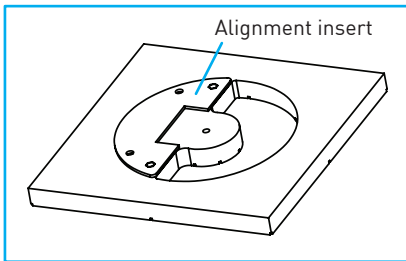
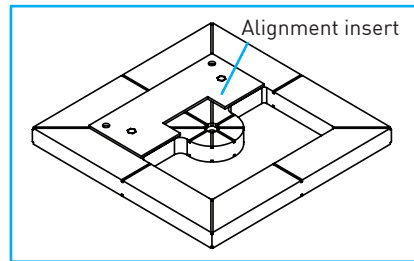

Fig.24
Fig.25
**Note:** This procedure utilizes DLA-RTG-2S-RD (Round Router Tool Guide) "**Fig.24**", or DLA-RTG-2S-SQ (Square Router Tool Guide) "**Fig.25**".